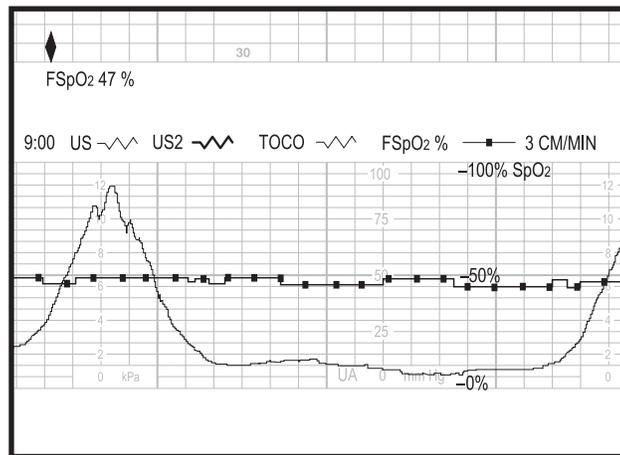

Figure 12-5. FSpO₂ Data Example
- ◆: A filled diamond indicates the reading was received from an external fetal pulse oximeter connected to the 120 Series Monitor. The vital signs print below the diamond. (See Figure 12-5.) Contact your Service Representative for information about connectivity.